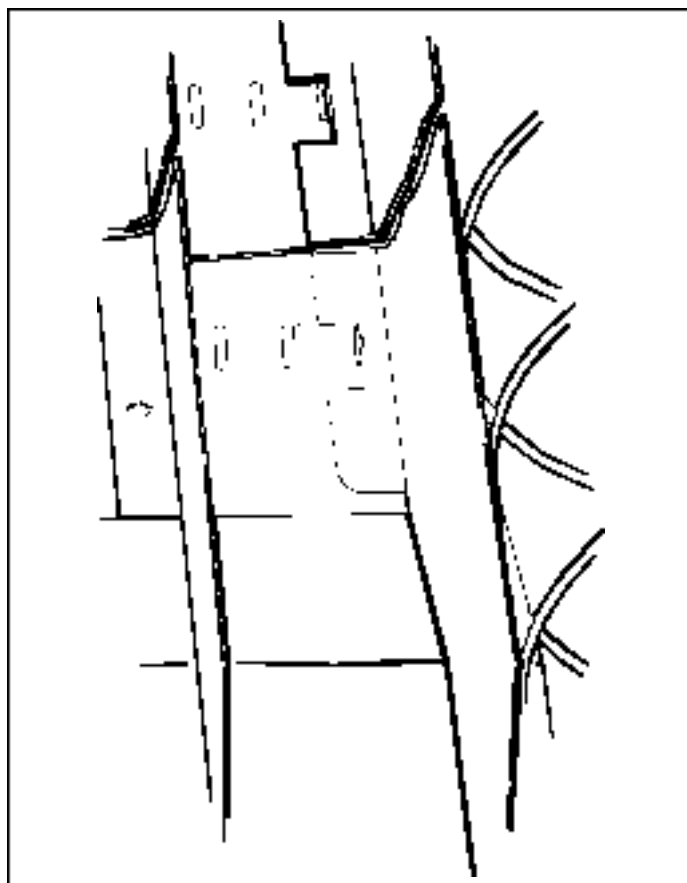

Figure 4. ALIGNMENT OF MOVEABLE PRODUCT SPACERS.
6. **PRODUCT SPACERS—5 SELECTION SHELF:** A product spacer is used to reduce the width of the product area and should be used on any 5-selection snack shelf where the product width is 4 1/2" or less. Spacers should fit within 1/8" of the product but should not fit tight against the product. There are three positions in each snack space where these spacers can be placed. To install the spacer, align the lock ears (on the lower edge of the spacer) with one of the three sets of slots (one front and one rear). (See Figure 4). Push the spacer to the rear to allow the ears to enter the slots, then allow the spacer to move forward. Be sure the ears are in the same set of slots, front and rear. (See Figure 4). Continue loading all spirals adjust with spacers where needed in the top shelf. Return the top shelf to the vend position and following this procedure load the remainder of the large spiral shelves. The shelf divider separating the right (lock side) column from the next column is movable to allow vending of products wider than 5 1/2" in the second column. If this is used the right column must be used to vend a narrower product.